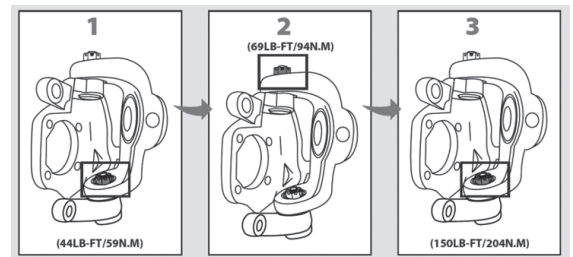

Figure 3
- Ensure to follow the torque sequence as outlined below and in Figure 3. It is recommended to perform this sequence with the steering knuckle in the straight-ahead position. This ensures steering knuckle is properly aligned to the axle assembly.